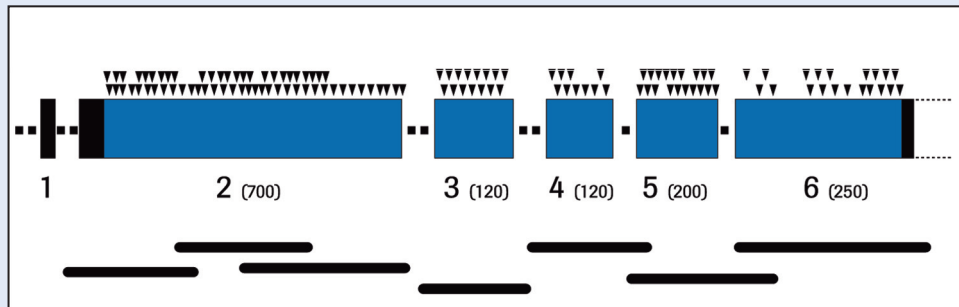

Figure 5: This typical gene, which has exons of differing lengths, requires careful placement of primers to get appropriate amplicons for the HRM analysis.
The following guidelines will help you design a gene scanning experiment to analyze a typical gene (e.g., the one in Figure 5):
- If the exon to be scanned is not too long (maximum length 400 bp, ideally < 250 bp; e.g., exons 3–6 in Figure 5), place the primers in the adjacent introns. This allows the entire exon to be scanned as a single amplicon.
- Longer exons (e.g., exon 2, Figure 5) should be divided in several segments (e.g., amplicons of approx. 300 bp each). Design the primers for these segments in a way that the amplicons overlap.